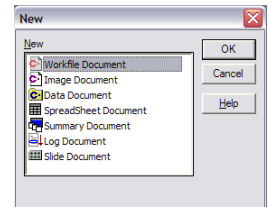

fig.1
1. Go to the **File Menu** and click on **New** (fig.1).
7. Close the **Capture** window by clicking **OK** (fig.1).